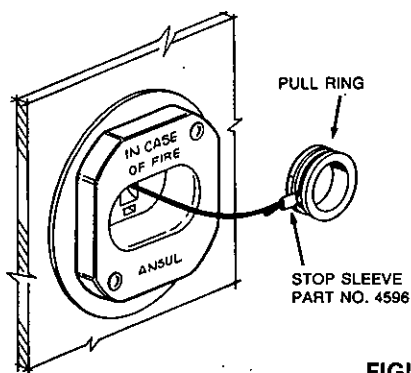

FIGURE 61
9. Slide oval crimp sleeve, Part No. 4596, over end of wire rope and then loop end of wire rope in groove around pull ring. Insert end of rope through sleeve, snug tightly around pull ring and crimp sleeve. See Figure 61. (Use the National Telephone Supply Company Nicopress Sleeve Tool Stock No. 51-C-887 or equal to properly crimp stop sleeve.)